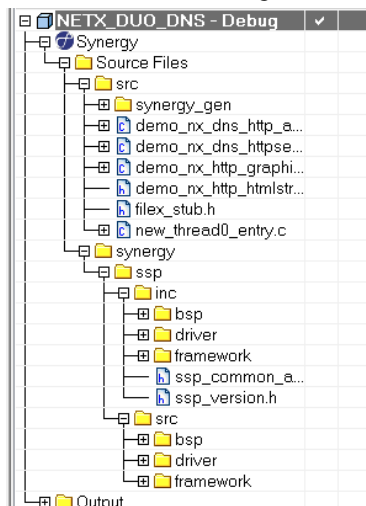

Figure 1.11 Synergy Configuration tabs
6. The project should resemble the folder structure as shown in Figure 1.11.